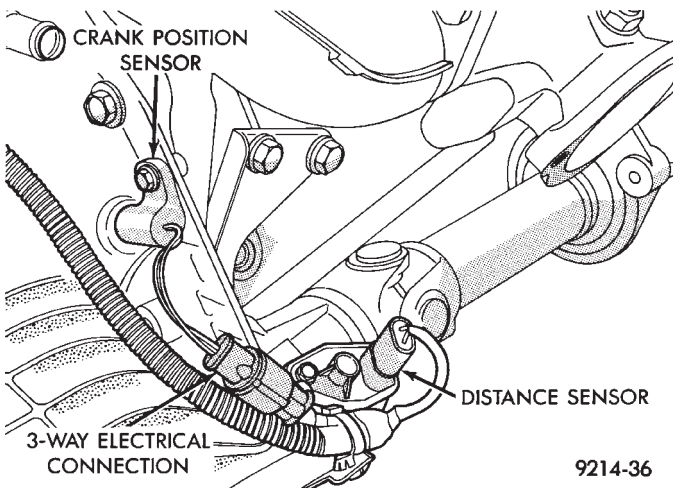

Fig. 13 Crankshaft Sensor and Vehicle Distance Sensor Electrical Connections
(21) Inspect the crankshaft position sensor electrical connector for damage (Fig. 13).
(22) Ensure the distance sensor electrical connector is attached to the sensor and not damaged (Fig. 13).